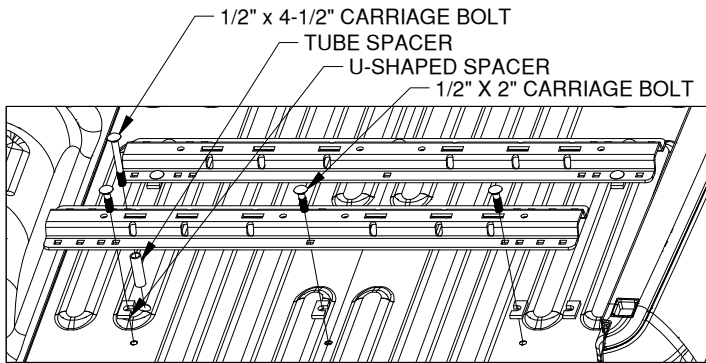

Figure D3: View looking down into the bed of the truck.
4. **Place the rear mounting rail.** Locate one tube spacer. Place the tube spacer into the 7/8" drilled hole. Re-position the rear mounting rail over the drilled 9/16" and 7/8" holes in the bed. Install a 1/2" x 4-1/2" carriage bolt into the driver side forward drilled position (7/8" hole over the cross member). Install three 1/2" x 2" carriage bolts through the three rear drilled positions, as shown in Figure D3. Place a U-shaped spacer between the bed and the mounting rail at the three rear drilled positions and the passenger side forward position.